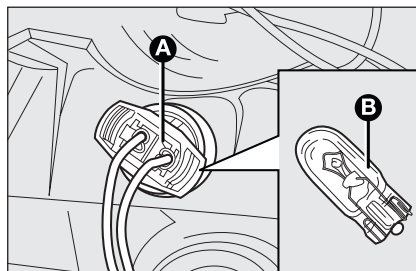

fig. 25
- ☐ remove the snap-fitted bulb holder **A**-fig. 25, extract the bulb **B** and change it;